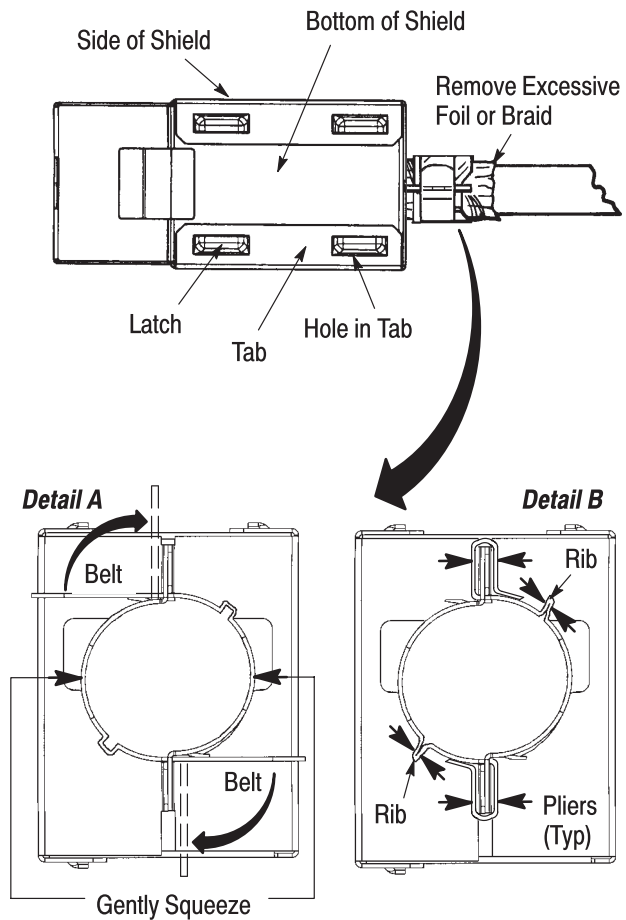

Figure 5
9. Refer to Figure 5 and inspect all latches of shield to ensure proper assembly. Refer to Detail A and firmly pull the belts until the shield is tight around the cable foil. Bend the belts away from the cable. Refer to Detail B and gently squeeze ribs with pliers for a tight fit. Then, bend belts as shown. Gently squeeze each belt with pliers for a tight fit. Remove excess foil or braid.